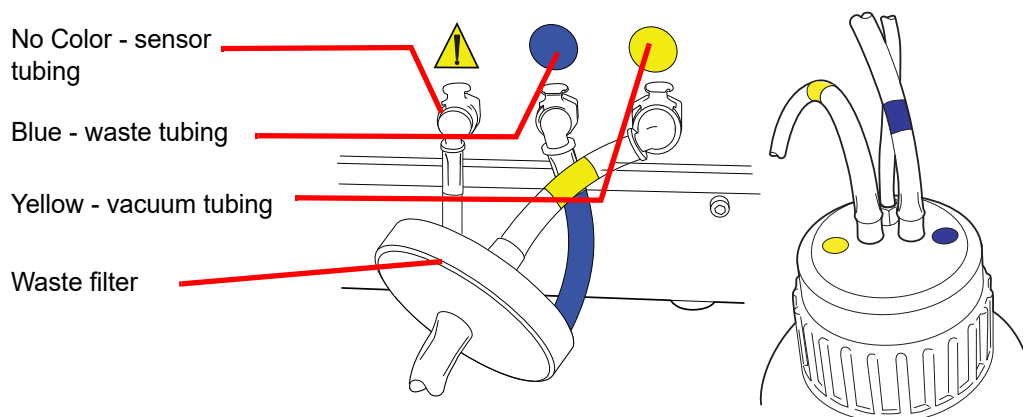

Figure 8-18 Waste bottle tubing connections
3. Locate the three waste bottle connections at the rear of the ThinPrep Genesis processor. See Figure 8-18. Ensure that the buttons of the connectors are in the down/inward position.